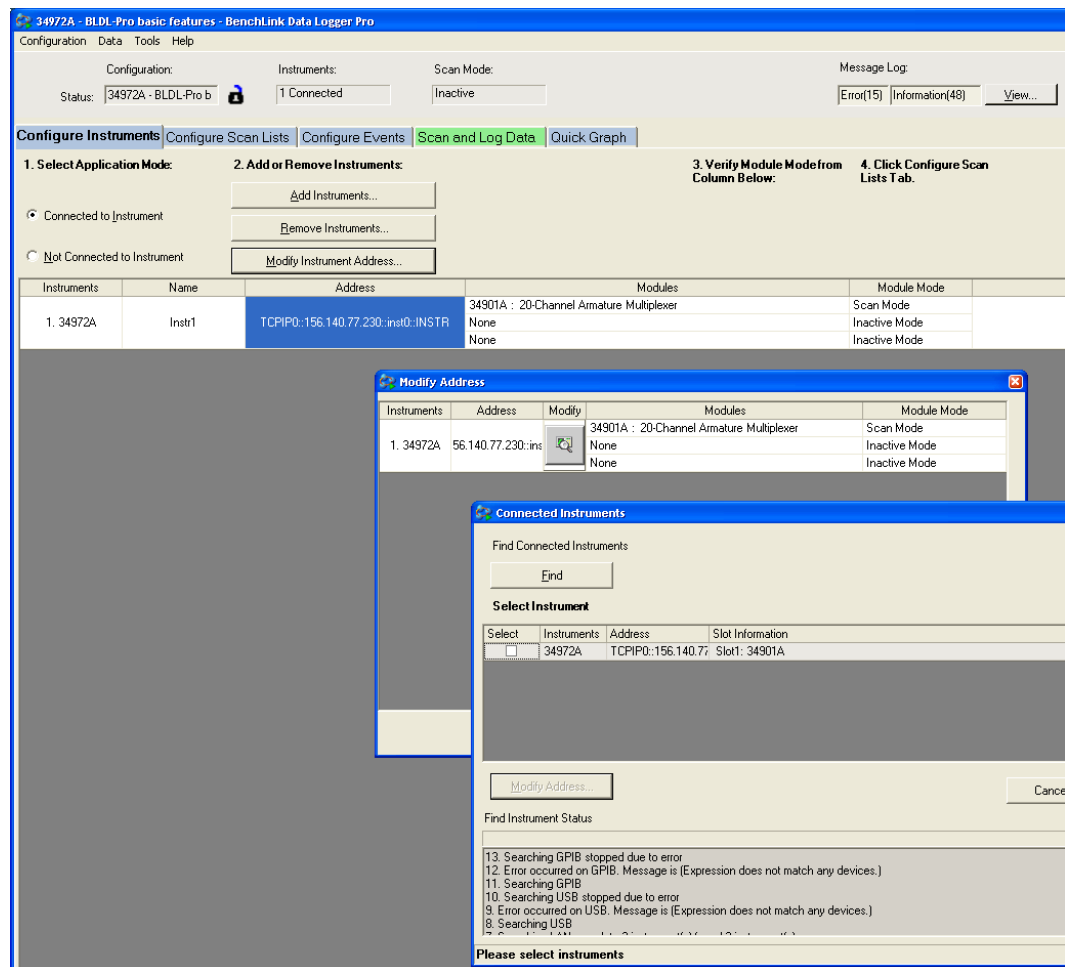

Figure 13 – Configure instruments – Modify Instrument address if needed
- When the configuration opens, notice that the **Instruments** column now shows a 34972A (figure 13). BLDL configurations include instrument information with them. When this configuration was created the target instrument was a 34972A at address TCPIP0::156.140.77.230::inst0:INSTR. You will likely need to change the address to match that of your 34972A. Do this by selecting **Modify Instrument Address...** button. In the **Modify Address** window select **Modify** Icon, and in the **Connected Instruments** window press **Find**. When your 34972A is displayed, check the **Select** box and press the **Modify Address** button. If you want to avoid changing the 34972A IP address each time you use BLDL see appendix 6 on setting a static IP address inside the 34972A.